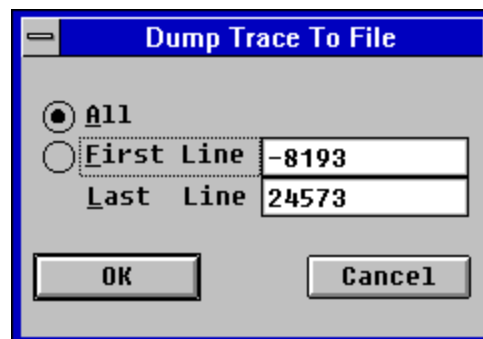

Figure 4.49 Dumping a trace to file
**Save as** Choose **Save as**, type a file name, and press the OK button. The dialog box in Figure 4.49 appears. Type how many lines you want to save and press the OK button, or simply press the OK button to save the whole trace.